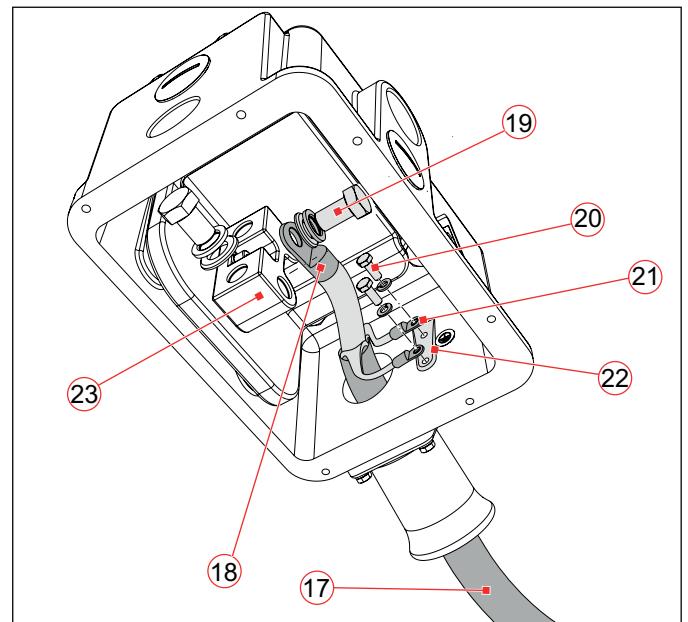

Fig. 23: Connect the single ended connector cable (17)
Depending on the model of the junction box, the single ended connector cables can be screwed on at different places on the top side or on the bottom side of the connecting piece (Fig. 23/23).
- ▶ Insert the single ended connector cable (Fig. 23/17) into the cable junction box.
- ▶ Screw the cable lug of the single ended connector cable (like shown for example in Fig. 23/18) with screw, washer and spring lock washer (19) to the connecting piece (23).
- ▶ Screw the 2 cable lugs (21) of the two earthing cables with screws (20) and spring lock washers to the earthing terminals (22).